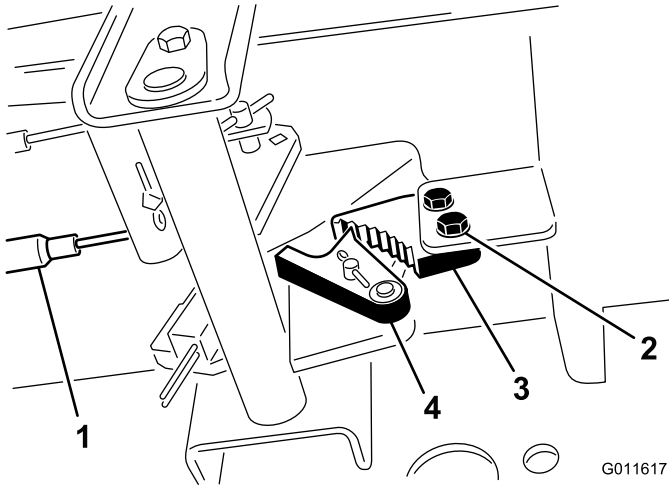

Figure 70
1. Loosen the 2 screws securing the parking-brake pawl to the frame (Figure 70).
2. Press the parking-brake pedal forward until the brake detent completely engages on the brake pawl (Figure 70).